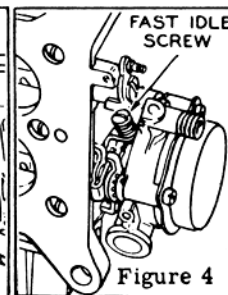

Figure 4
f. **Fast Idle Adjustment.** (See figure 4.) With choke valve closed and fast idle screw on high step of fast idle cam, rotate